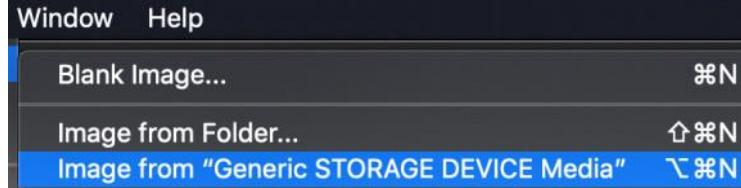

Figure 5.11 – Image from STORAGE DEVICE
6. Under this, select **Image from <your storage device>** (Figure 5.11):